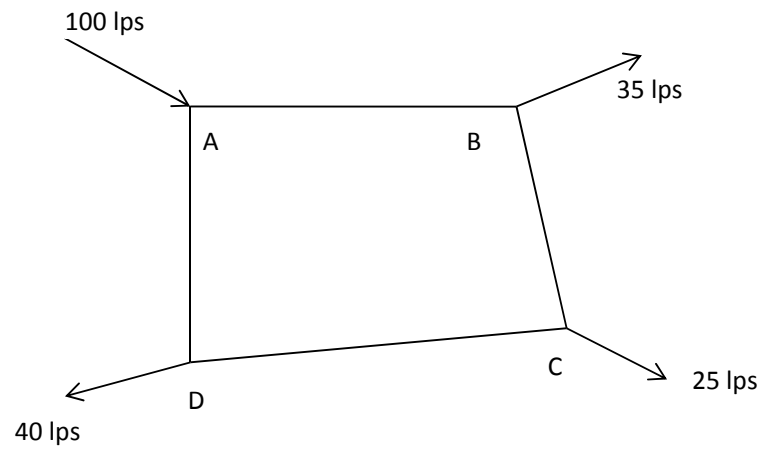

Figure 1 / Rajah 1
- [c] **Figure 1** shows a reticulation system in a housing estate. Estimate the flow rate in each pipeline using Hardy-Cross Method and Hazen-William formula up-to two iterations. Adopt Hazen-William coefficient C as 100. Use an initial flow rate of 80 litres per second (lps) from point A to B. The parameters for the pipes are as follows: